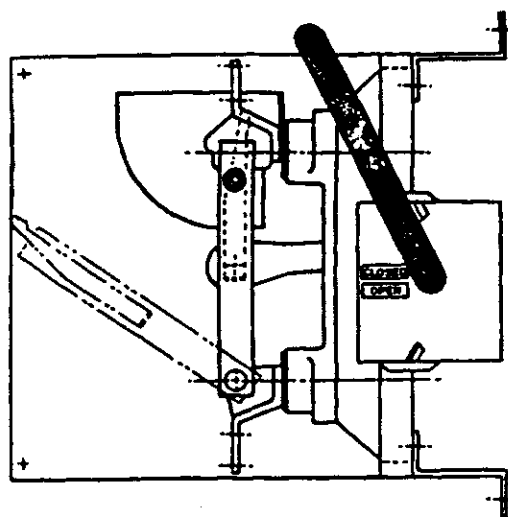

Fig. 7 Handle "UP" in switch closed position.
The component parts for this type are arranged per Fig. 7. The arrangement is essentially the same as for Type III except the handle is on the right side of the enclosure.
- a. Mount the frame-mounted switch (Fig. 7) in the enclosure. Check to be sure the 2 - 3/32" dimension from frame-mounting holes to outside of enclosure (per Dwg. S-20148) has been maintained.
- d. Move handle to "UP" or closed position as shown in Fig. 7 and engage hub and key of handle with shaft extension and keyway of stored-energy device.